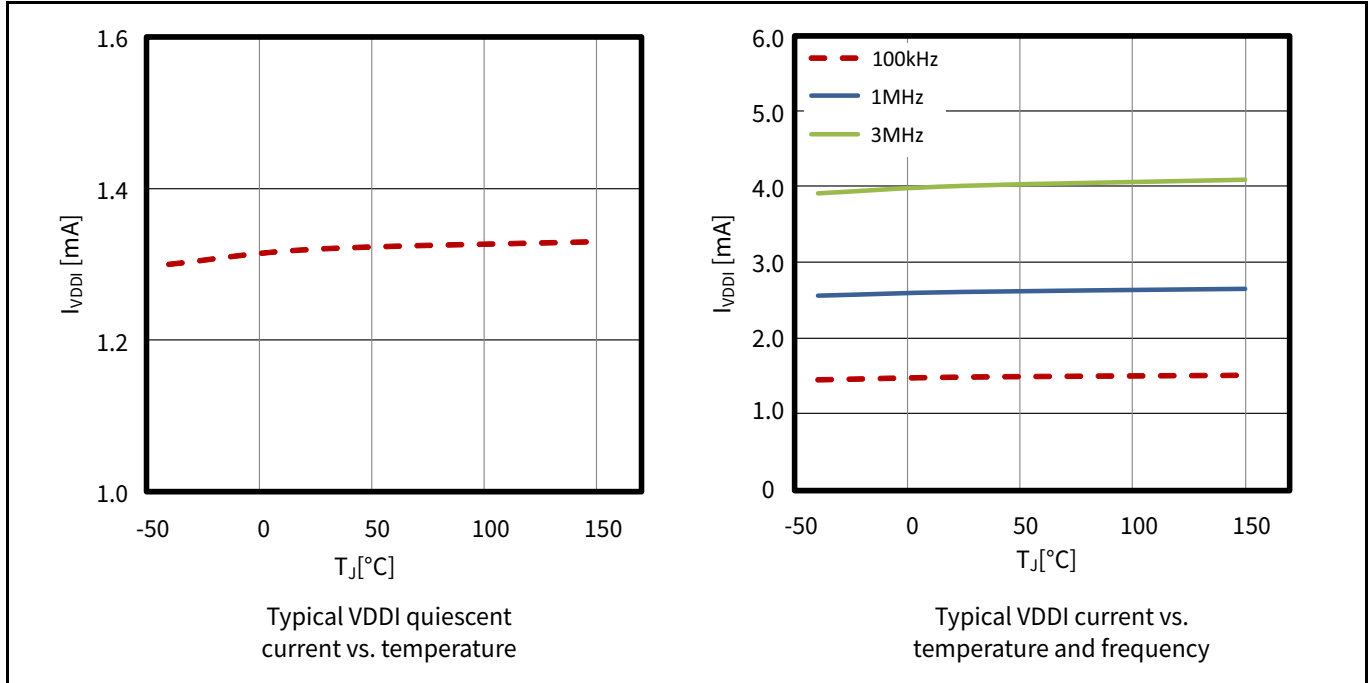

**Figure 6 UVLO behavior, start-up and deactivation time (unloaded output)**
**Figure 6** illustrates the UVLO behavior. It depicts the reaction time to UVLO events when the supply crosses the UVLO thresholds during rising or falling transitions (power-up, power-down, supply noise).
Figure 6	fixed typo